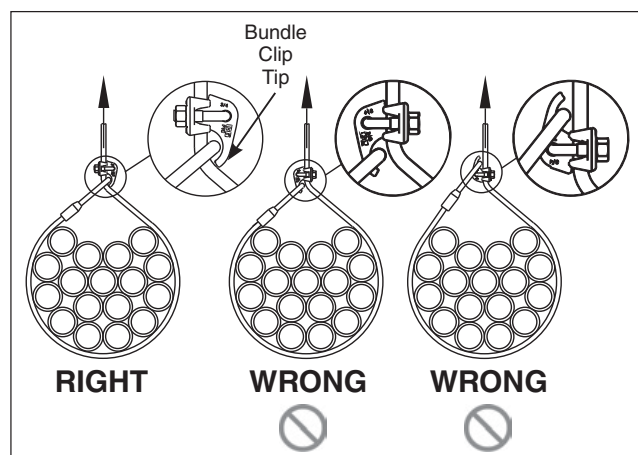

Figure 3
- Do not use the Bundle Clip to form the choke hitch (See Figure 3).
3. After initial loading, install the Bundle Clip in proper orientation, with curved portion (Bundle Clip tip) over the eye of the sling. Insert U-bolt through the Bundle Clip. Properly position the clip base over the U-bolt and install nuts (See Figure 3). Use torque wrench to tighten evenly, alternating from one nut to the other until the curved portion bottoms out on the clip base, and the recommended torque is reached (See Table 1).